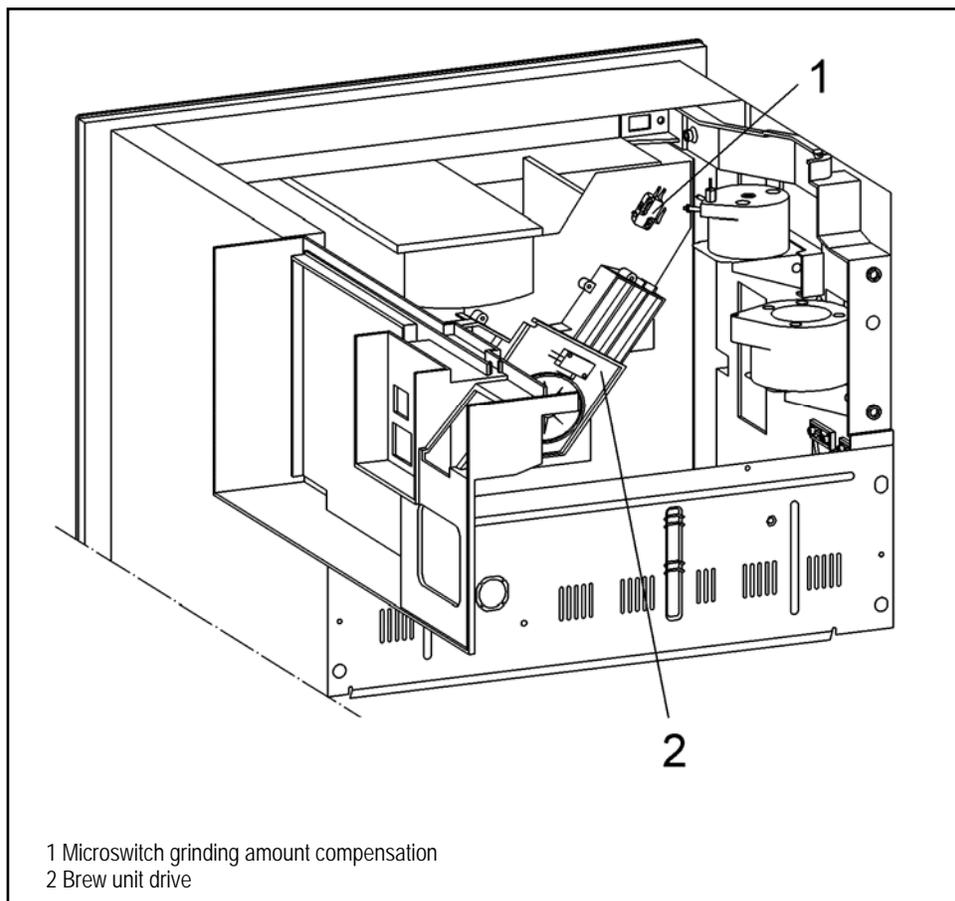

Figure 5-11: CVA4070 Brew Unit Drive Removal
7. Disconnect the plug of the brew unit drive (Figure 5-11, Item 2).